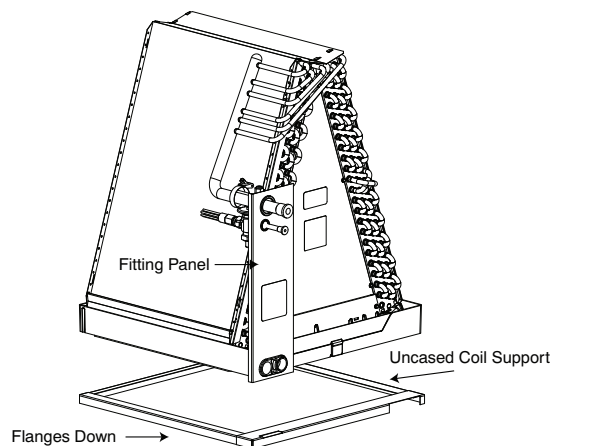

Fig. 1 – Uncased Coil Support
- Remove and discard fitting panel shipped with the uncased coil. See **Fig. 1**.
- Mount factory coil support (shipped with coil) directly on furnace flanges to support the coil. See **Fig. 1**.